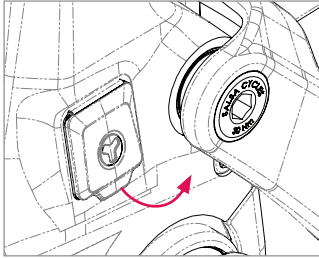

Figure 6
2. Locate the charge port cover on the non-drive side of your ebike near the base of the seat tube. Open the magnetic cover via the tab on the lower edge (Fig. 6).